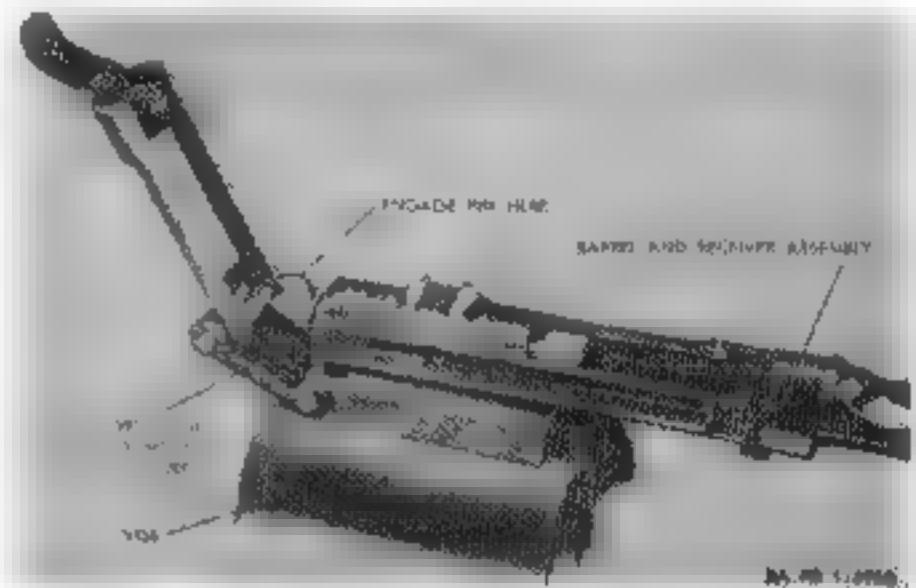
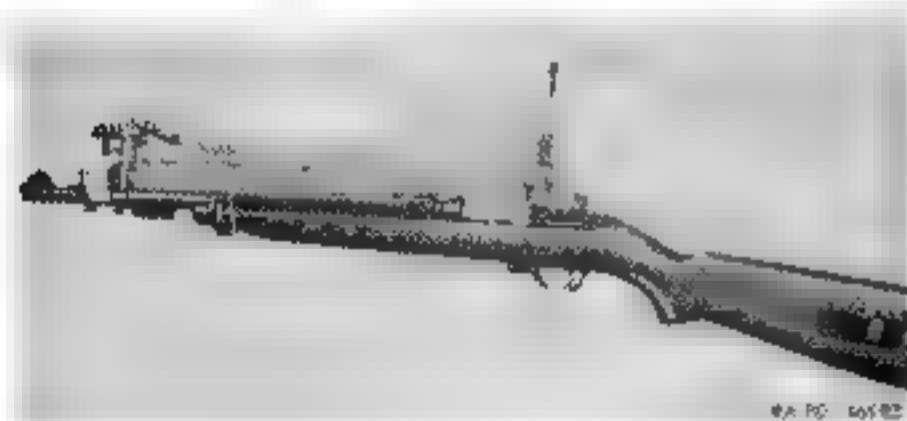

Figure 87. Placement of barrel and receiver assembly in vice-held stamping fixture.
Figure 89. Carbine clamped in bench-mounted stamping fixture.
(2) *Obscured serial numbers (DEPOT MAINTENANCE ONLY).* Maintenance organizations engaged in restamping serial numbers will fabricate fixtures locally to reinforce and clamp the receiver during the stamping operation. Two fixtures have been developed for this purpose; the vise-held stamping fixture (Figs. 87 and 88) and the bench-mounted stamping fixture (Figs. 89 and 90). The choice of fixture which best suits the requirements of the maintenance organization is left to the discretion of that organization.
1. Secure fixture firmly in vise as shown in figures 87 and 88.
2. Clamp the barrel and receiver assembly in the fixture (Figs. 87 and 88).
2. Remove the bolt from the carbine and clamp the carbine in the fixture, as indicated in figures 89 and 90